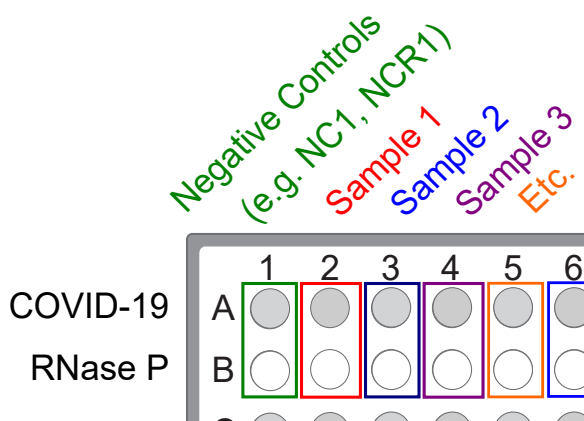

Figure 2 Paired sample and Negative Control wells for each assay
- b. Unseal the extraction plate, then add the Negative Control from the single well of the extraction plate to wells A1 and B1 of the reaction plate, as shown in Figure 2 on page 52.